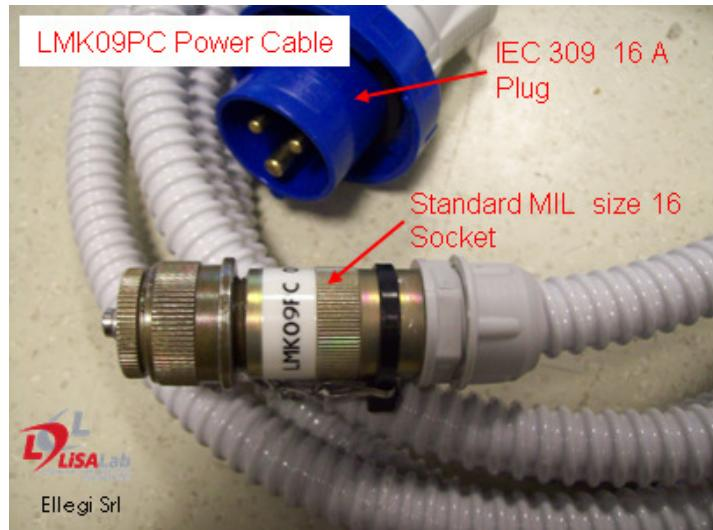

Figure 2: LISAMOBILE LMPC power cable and its connectors.
**1. Power Cable LMPC:** the power cable LMPC is used to connect the power base PBLM to a power line. One end of the power cable has a standard IEC309 16A 6AH 1PH+N plug power connector and the other end has a 3 pins standard MIL size 16 socket (Figure 2).